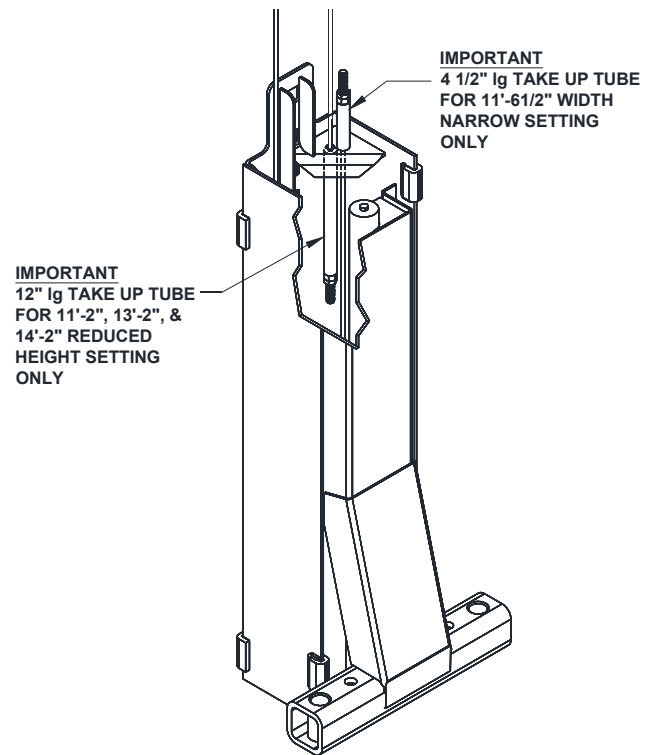

Fig. 9a – Cable Assembly
- 26) Mount synchronizer cables to carriages as shown in **Fig. 9a & 9b**. **Note: The 4 1/2” & 12” take up tubes are to take up the sync. cable slack when the lift is in the Narrow or Reduced Height setting. These take up tubes cannot be stacked together. The 4 1/2”**